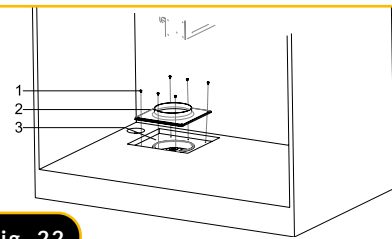

Fig. 22
10. Insert the flue ingress plate on the motor box with the screws that you have removed (Fig. 22).